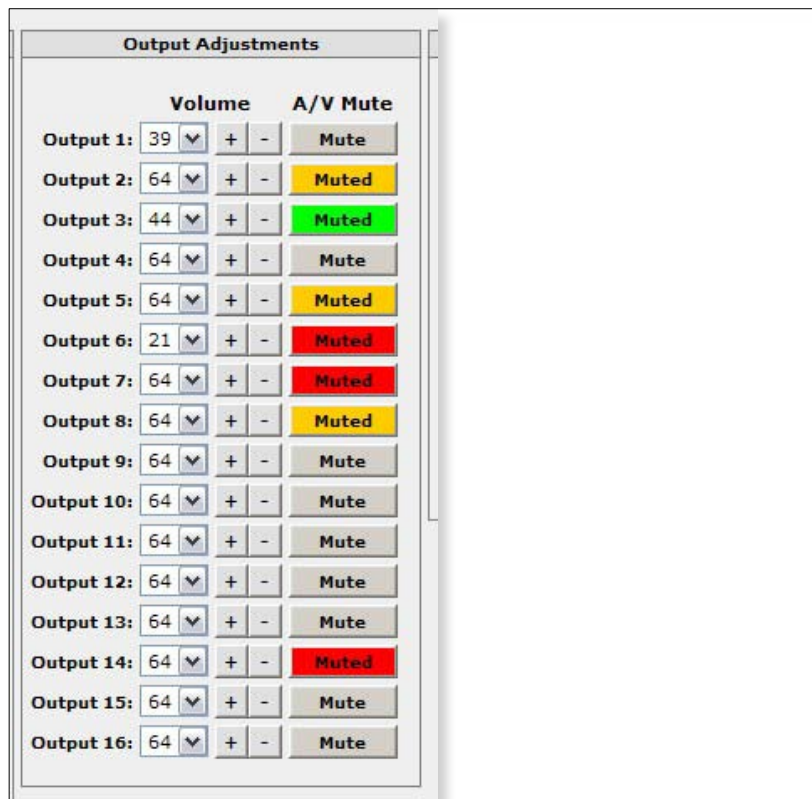

Figure 6-16 — A/V mute buttons status according to signal type
2. Click **Mute** for the output to be muted. The gray button changes color according to the muted signal (see Note and figure 6-16), and shows “muted”. The page refreshes and the SMX updates with the selection.